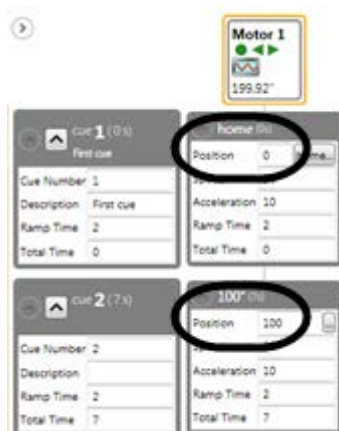

Figure 172
*In the example in Figure 172, the **Position** targets are “0” and “100.”*